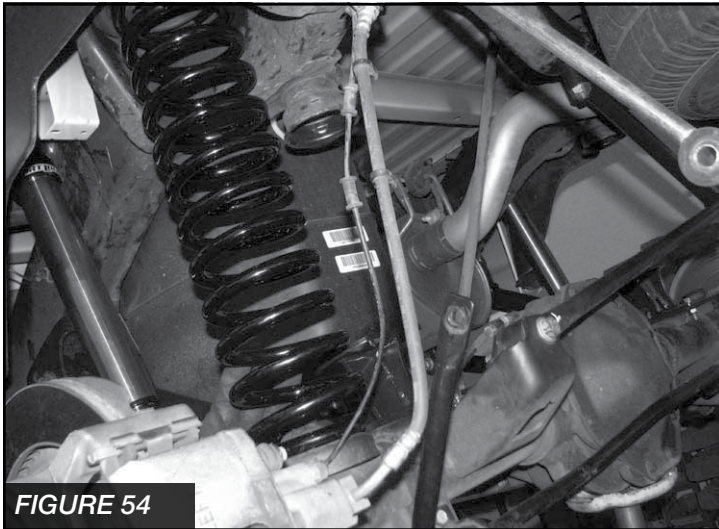

FIGURE 54
70. Install the Fabtech coil springs FT44294BK using the factory coil isolator. **SEE FIGURE 54**